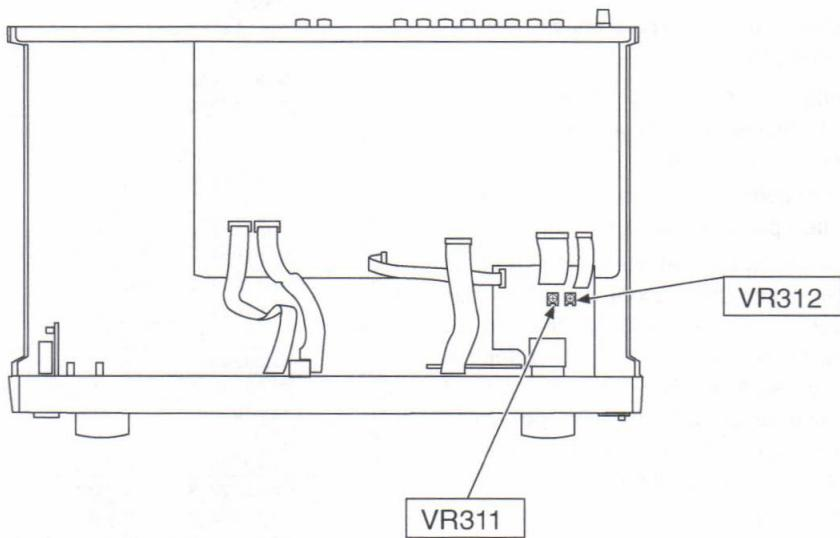

Fig.3
6. Adjust **VR311** (L ch) and **VR312** (R ch) so that the output voltage to AC  $1.00 \text{ V} \pm 0.2 \text{ dB}$ . Shown in Fig.3